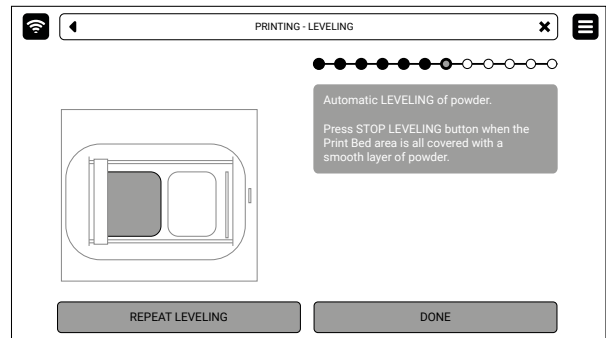

Fig. 6.9 Choose to **REPEAT LEVELING** or move on.
3. Wait until the Recoater completes the process. If you are not satisfied with the leveling, you can repeat the process by pressing **REPEAT LEVELING**. Afterwards press **DONE** (fig. 6.9).